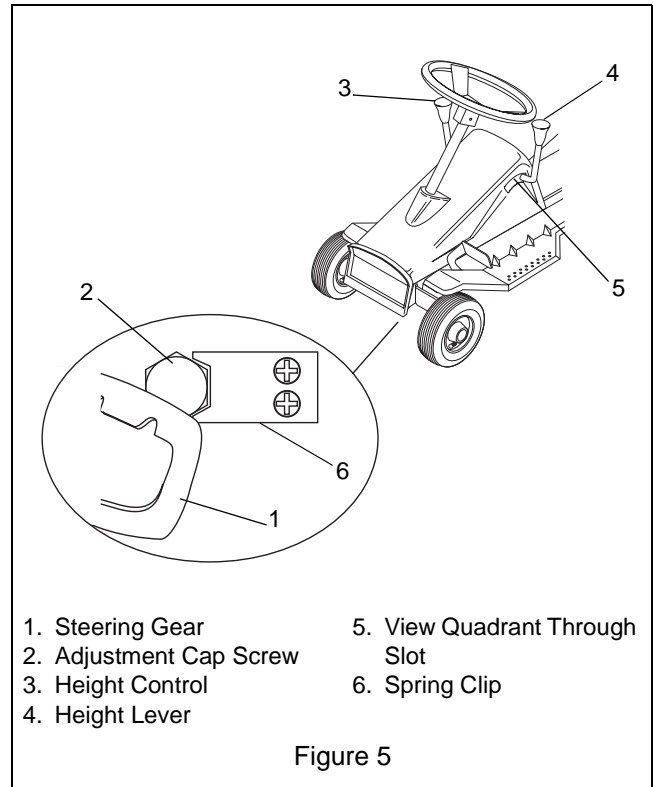

Figure 5
Adjust mower belt after first five (5) hours of operation. To adjust 28" and 30" mowers (Figure 5):